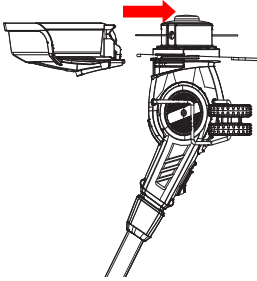

Fig. 1
1. Place the guard onto the tool as shown. (Fig. 1)